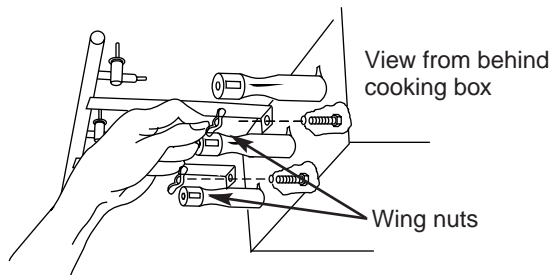

Figure 17
- e) Remove the manifold bracket and unscrew the two thumb screws that hold the manifold to the cooking box. Pull the manifold and valve assembly out of the burners and carefully set it down. Figure 17.